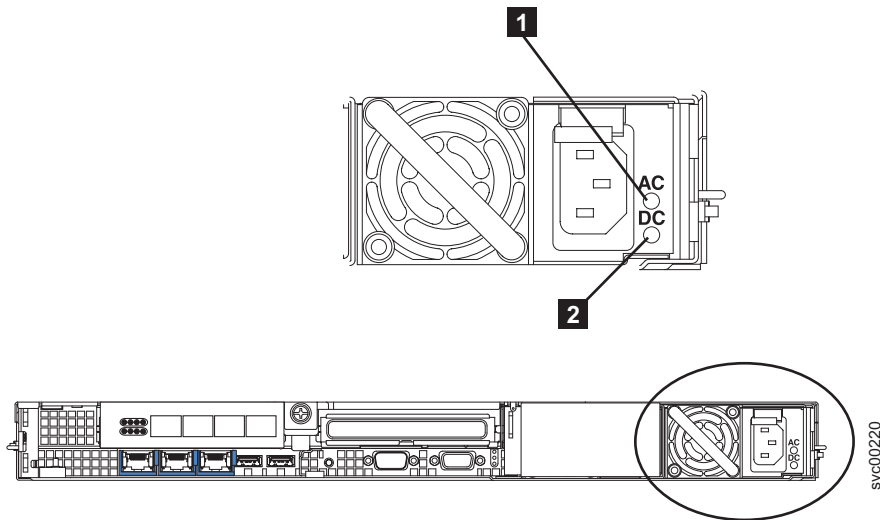

Figure 161. SAN Volume Controller 2145-8G4 ac and dc LEDs
4. Make sure that the ac power LED **1** and the dc power LED **2** (shown in Figure 161 on page 170) on the power supply are lit, indicating that the power supply is operating correctly. The two green LEDs are next to the power-cord connector.